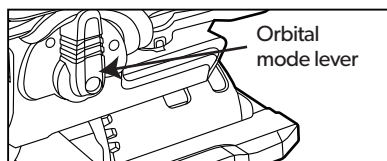

Figure 2
1. The jigsaw comes with four cutting modes (three cutting settings and 1 straight cutting mode). To change cutting mode, adjust the Orbital Mode Lever. See Figure 2, below.